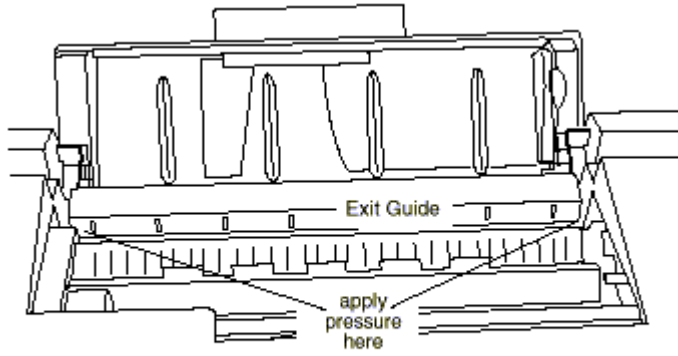

Figure 1.
1. Hold the Exit Guide so the star wheels (10) are facing the front of the printer.
4. Position both thumbs at the lower, front corners of the Exit Guide (Figure 1). Apply moderate pressure simultaneously toward the rear and down to latch the Exit Guide.